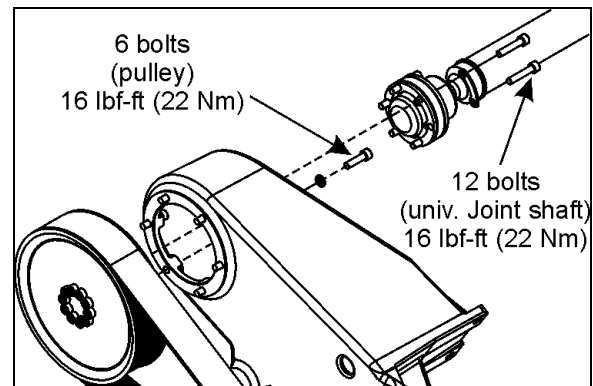

FIGURE 22: TIGHTENING SPECIFICATION
2. Dismount the drive pulley. Gain access to the 6 mounting bolts from behind the pulley, through the opening in the cast aluminum support (Fig. 22).
3. Unscrew and remove the universal joint shaft mounting bolts (6) at the right angle gearbox.